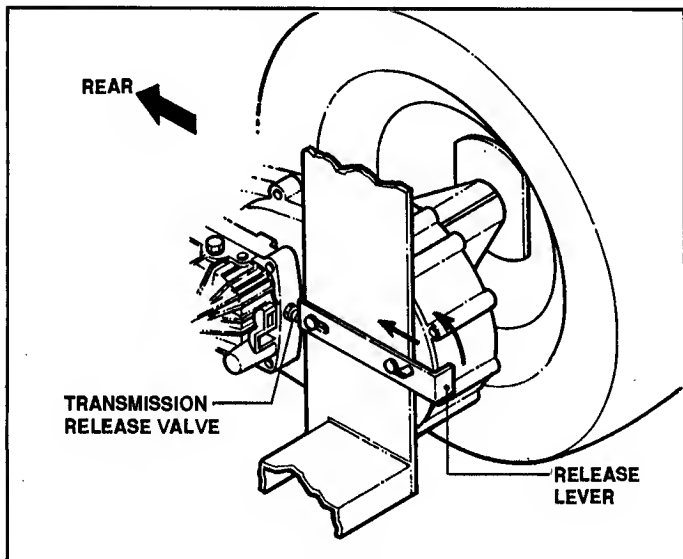

FIGURE 9.2
2. Raise the levers slightly (to disengage) then push them to the rear and down to freewheel. See Figure 9.2.